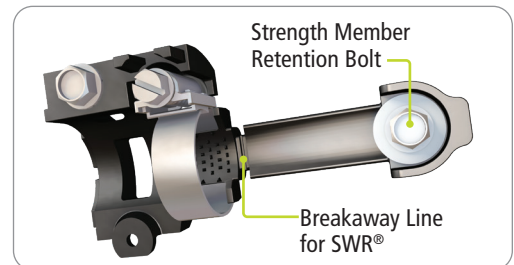

Figure 14
2. Secure strength members under retention bolt without trapping or pinching tubes. (Figure 14)